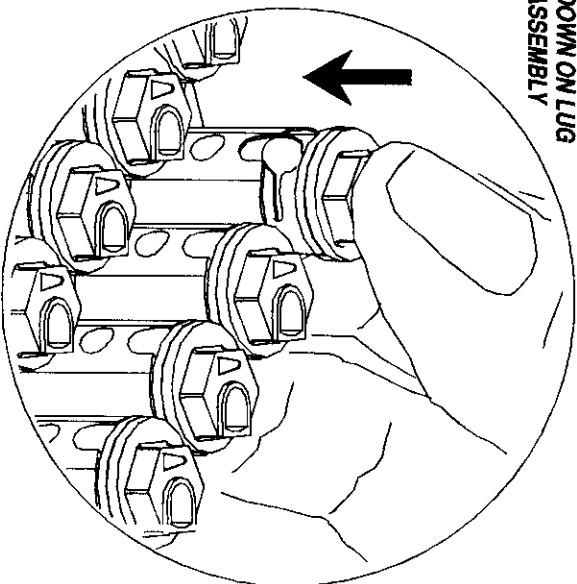

Figure 5
- (f) Using your thumb, press down on lug assembly until it seats on post walls (see Figure 5).